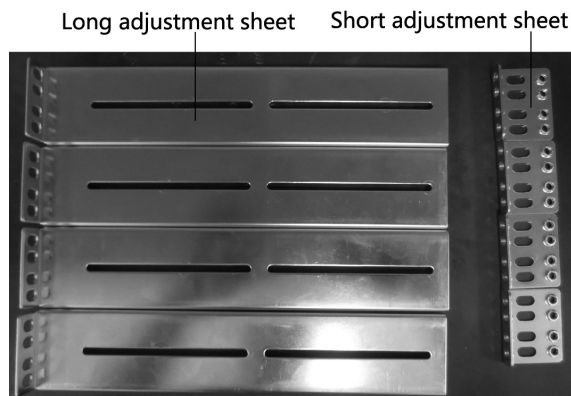

Figure 4
• Long adjustment sheet and short adjustment sheet are shown in the following Figure 4.